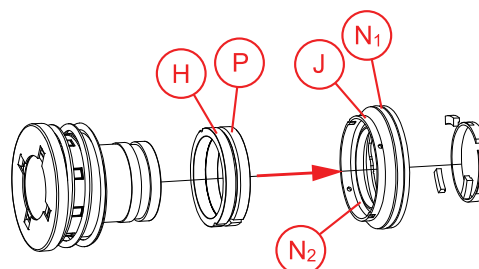

Figure 12-15: Remove Stationary Seat / Elements
3. Once the shear ring (K) is broken, remove the shear ring (K) from the sleeve (126) and the remaining shear ring (K) pieces from inside the stationary seat (J). Take extreme care not to break or cause stress on the rotating element (H) and stationary element (P). If the two elements (H,P) stay together, do not separate the seal faces.
4. Remove the stationary seat (J) and O-rings (N₁, N₂) from the sleeve (126) and set aside. Remove the stationary element (P) and rotating element (H) as a unit to protect the machined seal faces, Figure 12-15.